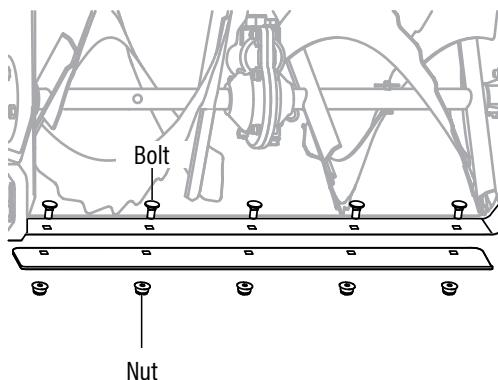

Fig. 15
1. The scraper bar is located at the bottom of the snow blower housing. In the process of snow blowing, the bar may touch the ground or stone directly, resulting in wear. Remove the battery and turn the snow blower on its side to work on the tool. (Fig. 15)
2. Use a Hex wrench to remove the 5 nuts and washers under the bottom of the housing. Remove the worn scraper bar from the snow blower. (Fig. 15)